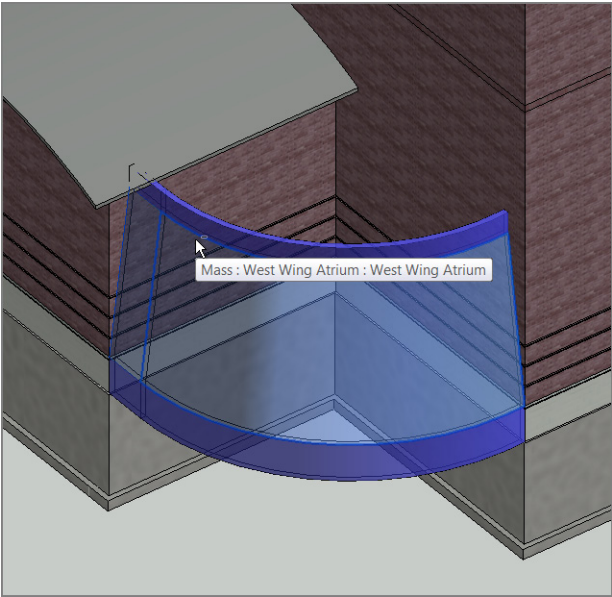

FIGURE 16.50: Selecting the faces to host the curtain system
11. Pick the two sloping faces of the mass, as shown in Figure 16.50.